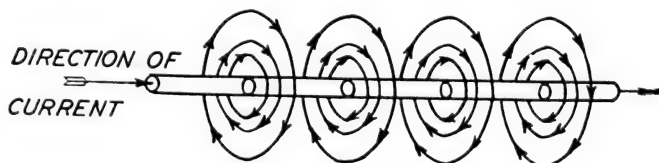

Fig. 10. Direction of Lines of Force around a Wire
**Electromagnets.** If a compass be brought into the neighborhood of a single conductor carrying an electric current, the needle deflects thus indicating the presence of a magnetic field. This magnetic field, or flux, exists in circles about the conductor as shown in Fig. 10. These circles have their centers at the center of the